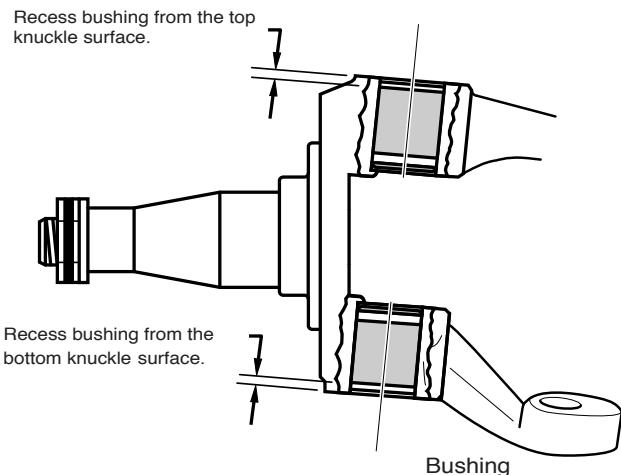

Figure 2
7. Drive bushing until they are located at the depth indicated on Figure 2. Use the same method to install both top and bottom bushings.